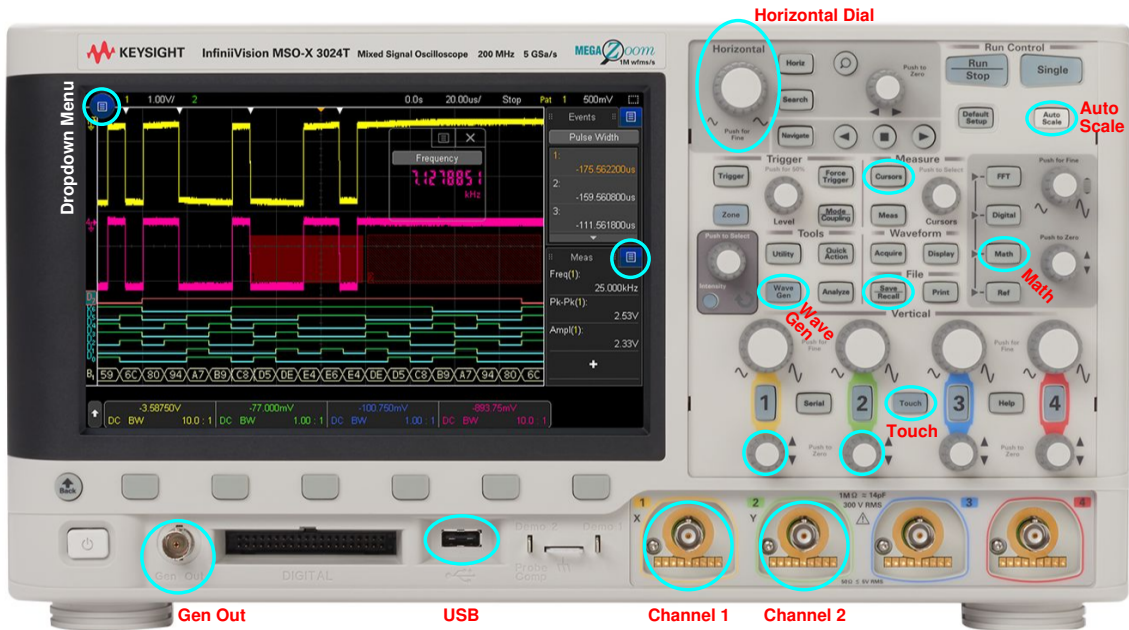

Figure 19: Keysight MSO-X 3024T oscilloscope front view
- Make sure "Touch" is activated, then touch the dropdown menu  on the top left corner (see Fig. 19)
- Make sure "Touch" is activated, then push the "Wave Gen" button (see Fig. 19)
- Make sure "Touch" is activated, then push the "Math" button (see Fig. 19)
- Make sure you display sufficient number of periods for accurate computation; the number of periods can be adjusted by turning the "Horizontal Dial" in Fig. 19